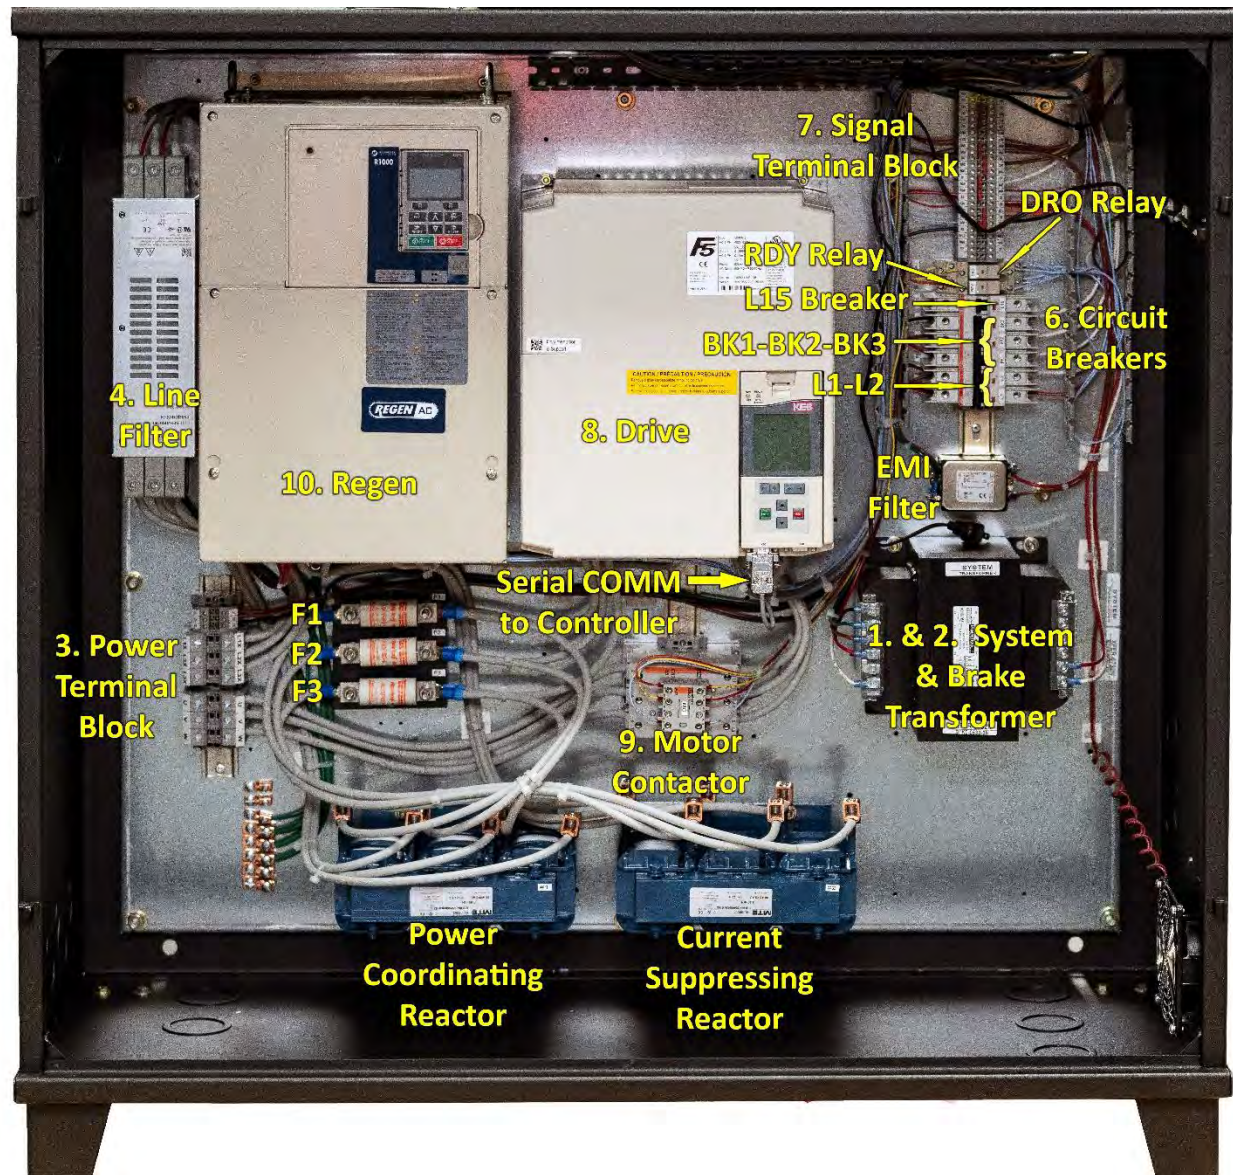

Figure 1-3: Typical Layout of the Controller Bottom Cabinet
Figure 1-3 shows the typical layout of the components in the bottom cabinet. These components are listed below.
- i** If the main drive is a “Magnetek Quattro AC/PM Cube”, the drive is mounted in the bottom cabinet of the GALaxy IV controller. See Figures 1-3 and 1-4. If the main drive is a “Magnetek Quattro AC/PM Cabinet”, the drive is mounted in a separate cabinet. See Figure 1-5.